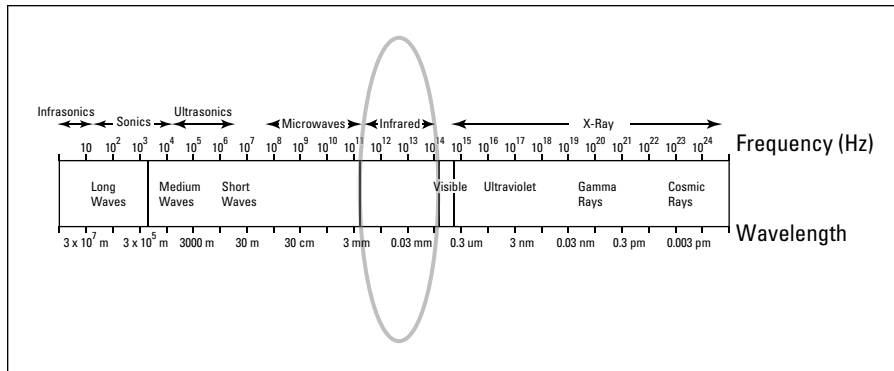

Figure 9-1:
Infrared (IR) radiation is electromagnetic radiation with a wavelength that's longer than that of visible light but shorter than that of microwaves and terahertz radiation, as illustrated in Figure 9-1. You can't see infrared light. Because infrared light (like visible light) doesn't go through opaque barriers and reflects off the ceiling, walls, and most other objects in a typical room or enclosure, it can be used for room-level locating. For example, with an IR transmitting tag, the IR transmissions can be received only by the IR receiver in that room and by knowing which IR receiver saw the tag, the room where the tag is can be identified.